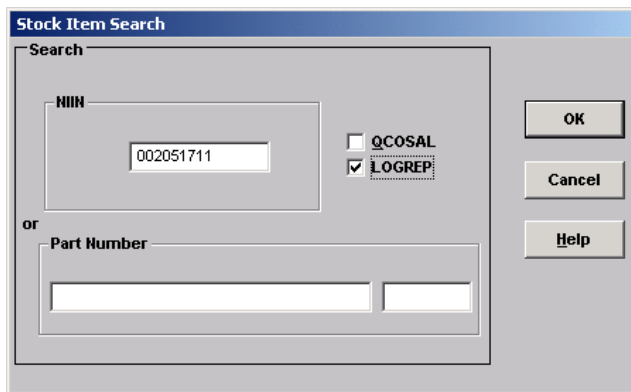

Figure 5.7
- 5.2.1 The **Stock Item Search** window (Figure 5.7) allows the user to search for stock items in the Stock Item Table (SIT). Enter the **NIIN** or **Part Number** and select the **COSAL** type. Click **OK**.